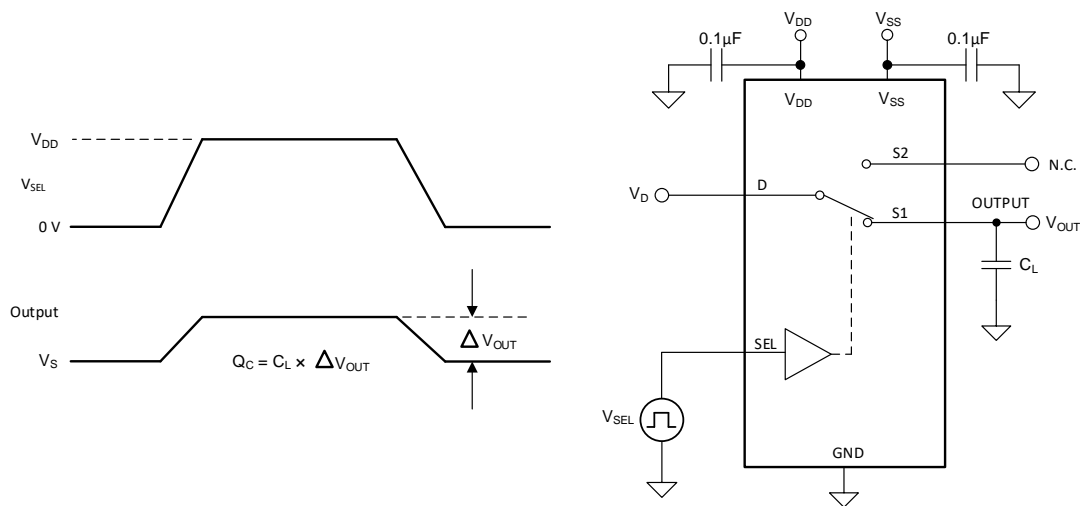

图 12. Charge-Injection Measurement Setup
The TMUX1219 has a transmission-gate topology. Any mismatch in capacitance between the NMOS and PMOS transistors results in a charge injected into the source or drain of the device during the falling or rising edge of the gate signal. The amount of charge injected into the source or drain of the device is known as charge injection, and is denoted by the symbol Q_C . 图 12 shows the setup used to measure charge injection from Drain (D) to Source (Sx).